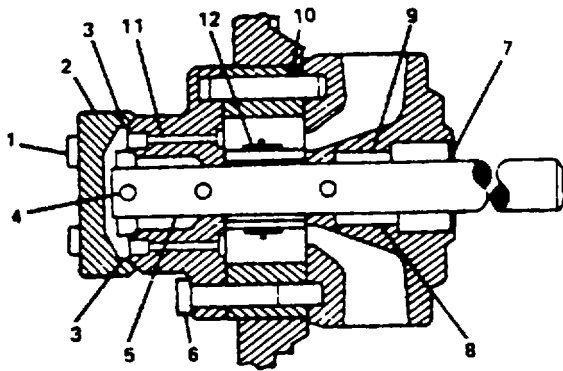

Figure 2-26. Disassemble Remote Hand Pump.
- a. Remove hex head screws (1, Figure 2-26) holding end cap (2) to pump.
- b. Remove and discard end cap gasket (3).
- c. Remove collar retaining pin (4) and remove collar (5).
- d. Remove hex head screws (6) holding pump head to body and separate.
- a. Install preformed packing (10, Figure 2-26), rear bearing (11) and rotor (12).
- b. Install front shaft bearing (9) and snap ring (8).
- c. Install shaft seal (7).
- a. Assemble pump head to body and secure with hex head screws (6).
- b. Install collar (5) and secure with collar retaining pin (4).
- c. Install new gasket (3), end cap (2) and secure with four hex head screws (1).